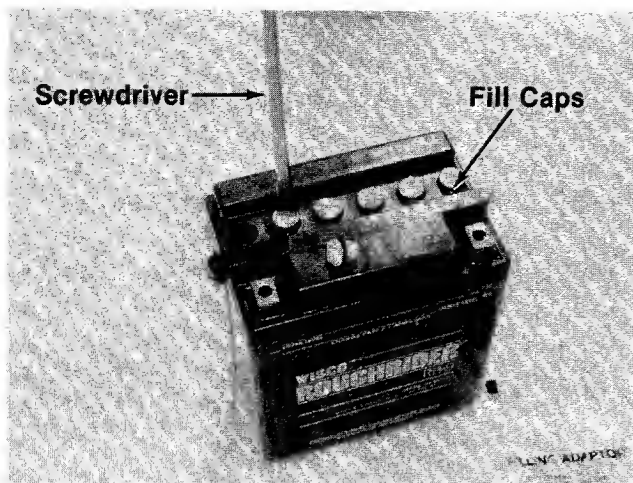

FIGURE 8.
4. Remove the six fill caps from the top of the battery with a screwdriver. Care should be taken not to damage the fill caps. See figure 8.